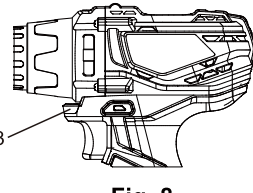

Fig. 8
The LED worklight (3) will automatically turn ON when the trigger switch is squeezed (Fig. 8). It will automatically turn OFF when the trigger switch is released.